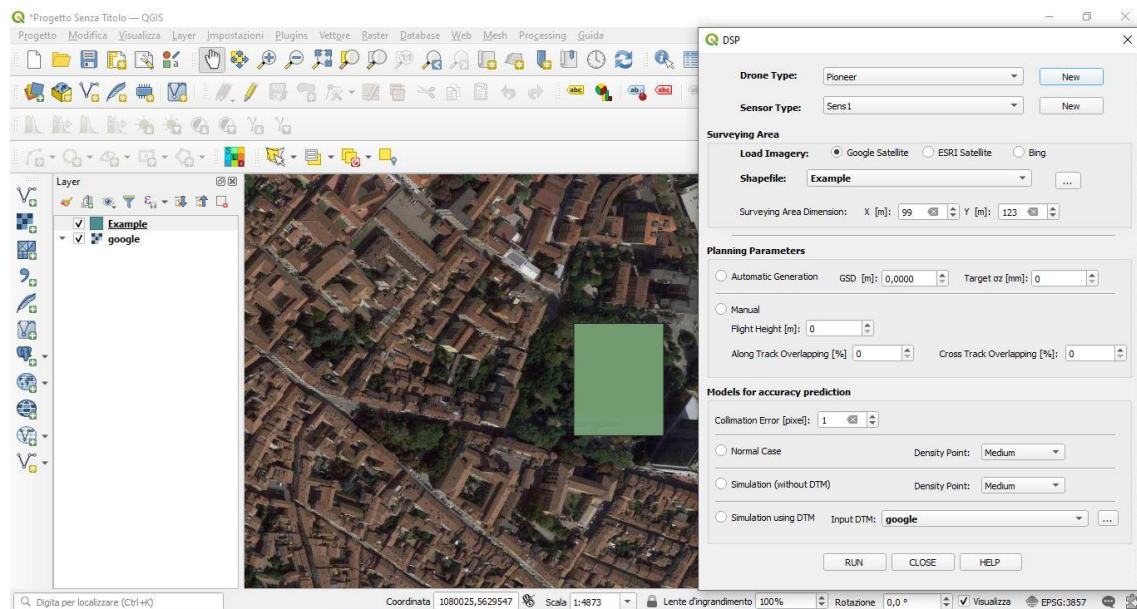

Figure 6
In this way the user can draw a new shapefile in the Region Of Interest (ROI) and its name and area dimensions will automatically appear in the GUI. (See Figure 6)
- Along Track and Cross Track Overlapping percentage.These values will be shown to the user together with all the results in the output window (see Figure 6), once all the other requested input variables are set and the “Run” button is clicked.